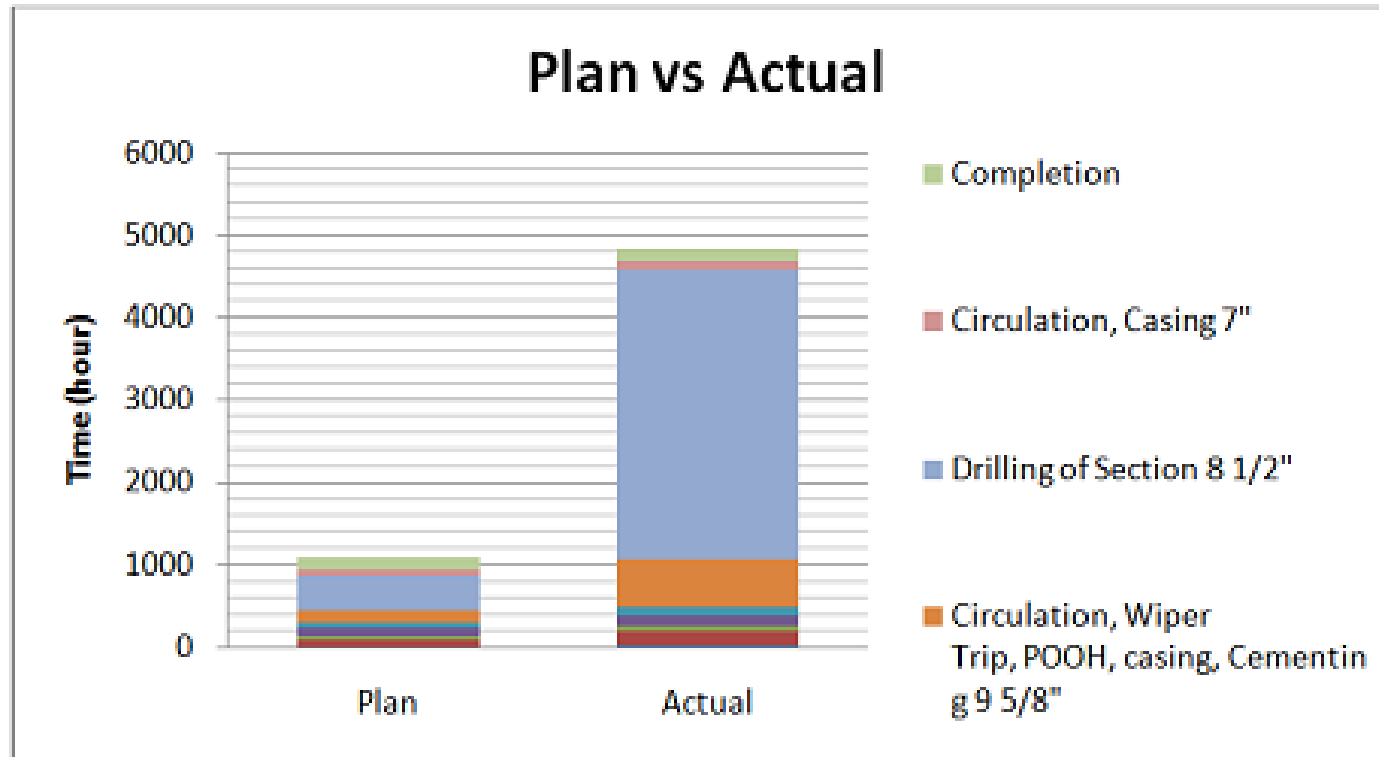

Figure 1: Plan and Actual Drilling Time of Field X
- Figure 1 shows a case study of exploration drilling time in Field X, Indonesia.